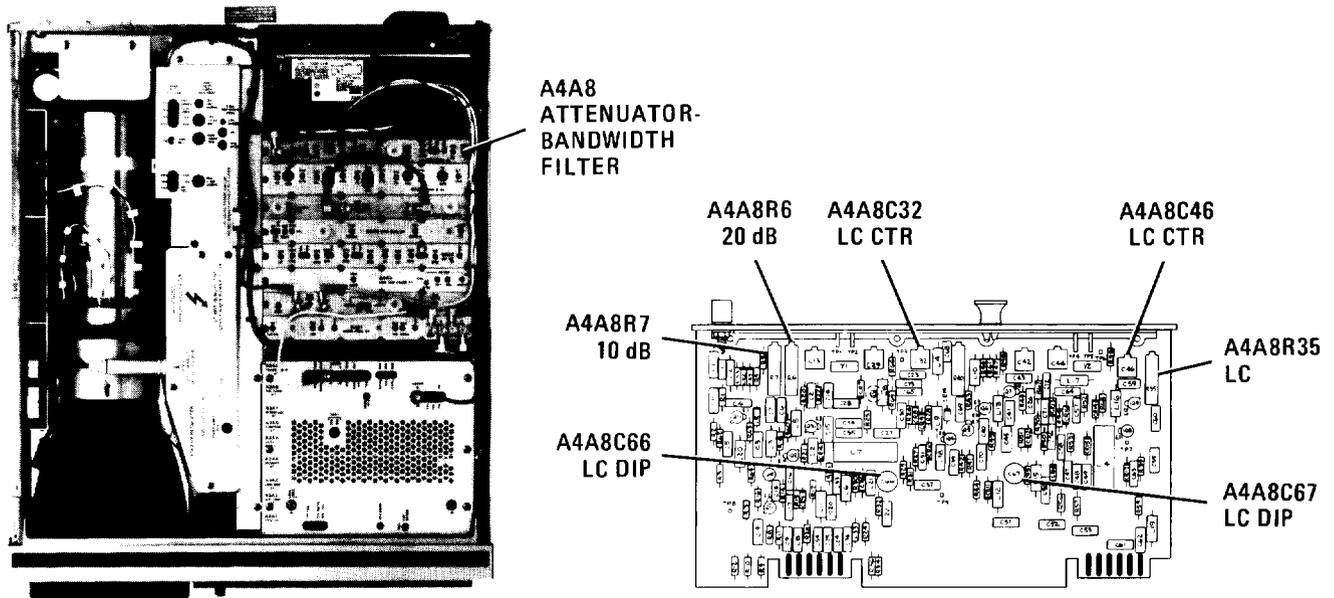

FIGURE 29. LOCATION OF A4A8 21.4 MHz LC FILTER AND ATTENUATION ADJUSTMENTS
31. Adjust A4A8C32 LC CTR and A4A8C46 LC CTR for maximum MARKER level as indicated by CRT annotation. Refer to Figure 29 for location of adjustments. If unable to adjust A4A8C32 and A4A8C46 LC CTR adjustments for satisfactory signal amplitude, increase or decrease value of A4A8C35 and A4A8C49. Refer to Table 3 for range of values.
35. Adjust A4A8R35 LC to align markers on display. MARKER Δ level should indicate 1.00 X. Refer to Figure 29 for location of adjustment.
63. Adjust A4A8C66 LC DIP for minimum amplitude of signal peak. Refer to Figure 29 for location of adjustment. If unable to achieve a “dip” in signal amplitude, increase or decrease value of A4A8R30. Refer to Table 3 for range of values.
65. Adjust A4A8C67 LC DIP for minimum amplitude of signal peak. Refer to Figure 29 for location of adjustment. If unable to achieve a “dip” in signal amplitude, increase or decrease value of A4A8R55. Refer to Table 3 for range of values.
74. Adjust A4A8R7 A10dB to align markers on display. MARKER Δ level should indicate 0.00 dB. Refer to Figure 29 for location of adjustment.
76. Adjust A4A8R6 A20dB to align markers on display. MARKER Δ level should indicate 0.00 dB. Refer to Figure 29 for location of adjustment.